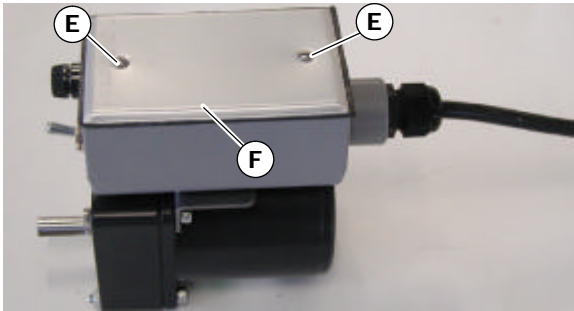

Figure 7
4. Remove two (2) cover screws (E of Figure 7) and remove cover (F).